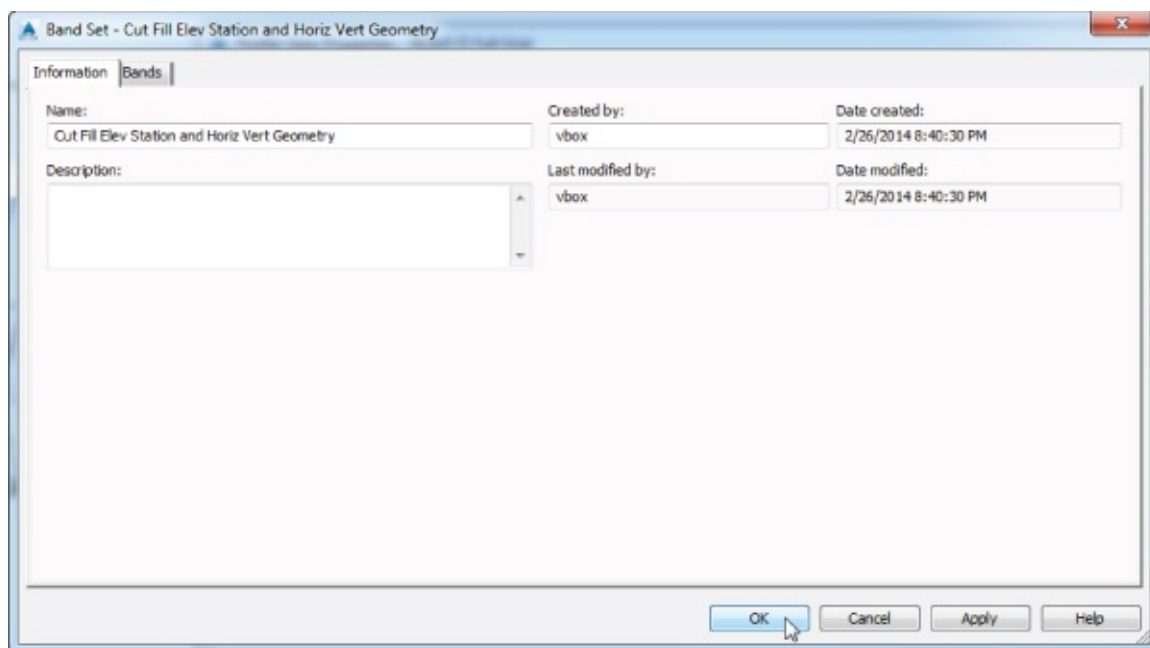

Figure 7.62 The Information tab for the Band Set – New Profile View Band Set dialog
4. On the Information tab, in the Name field, enter **Cut Fill Elev Station and Horiz Vert Geometry**, as shown in Figure 7.62.